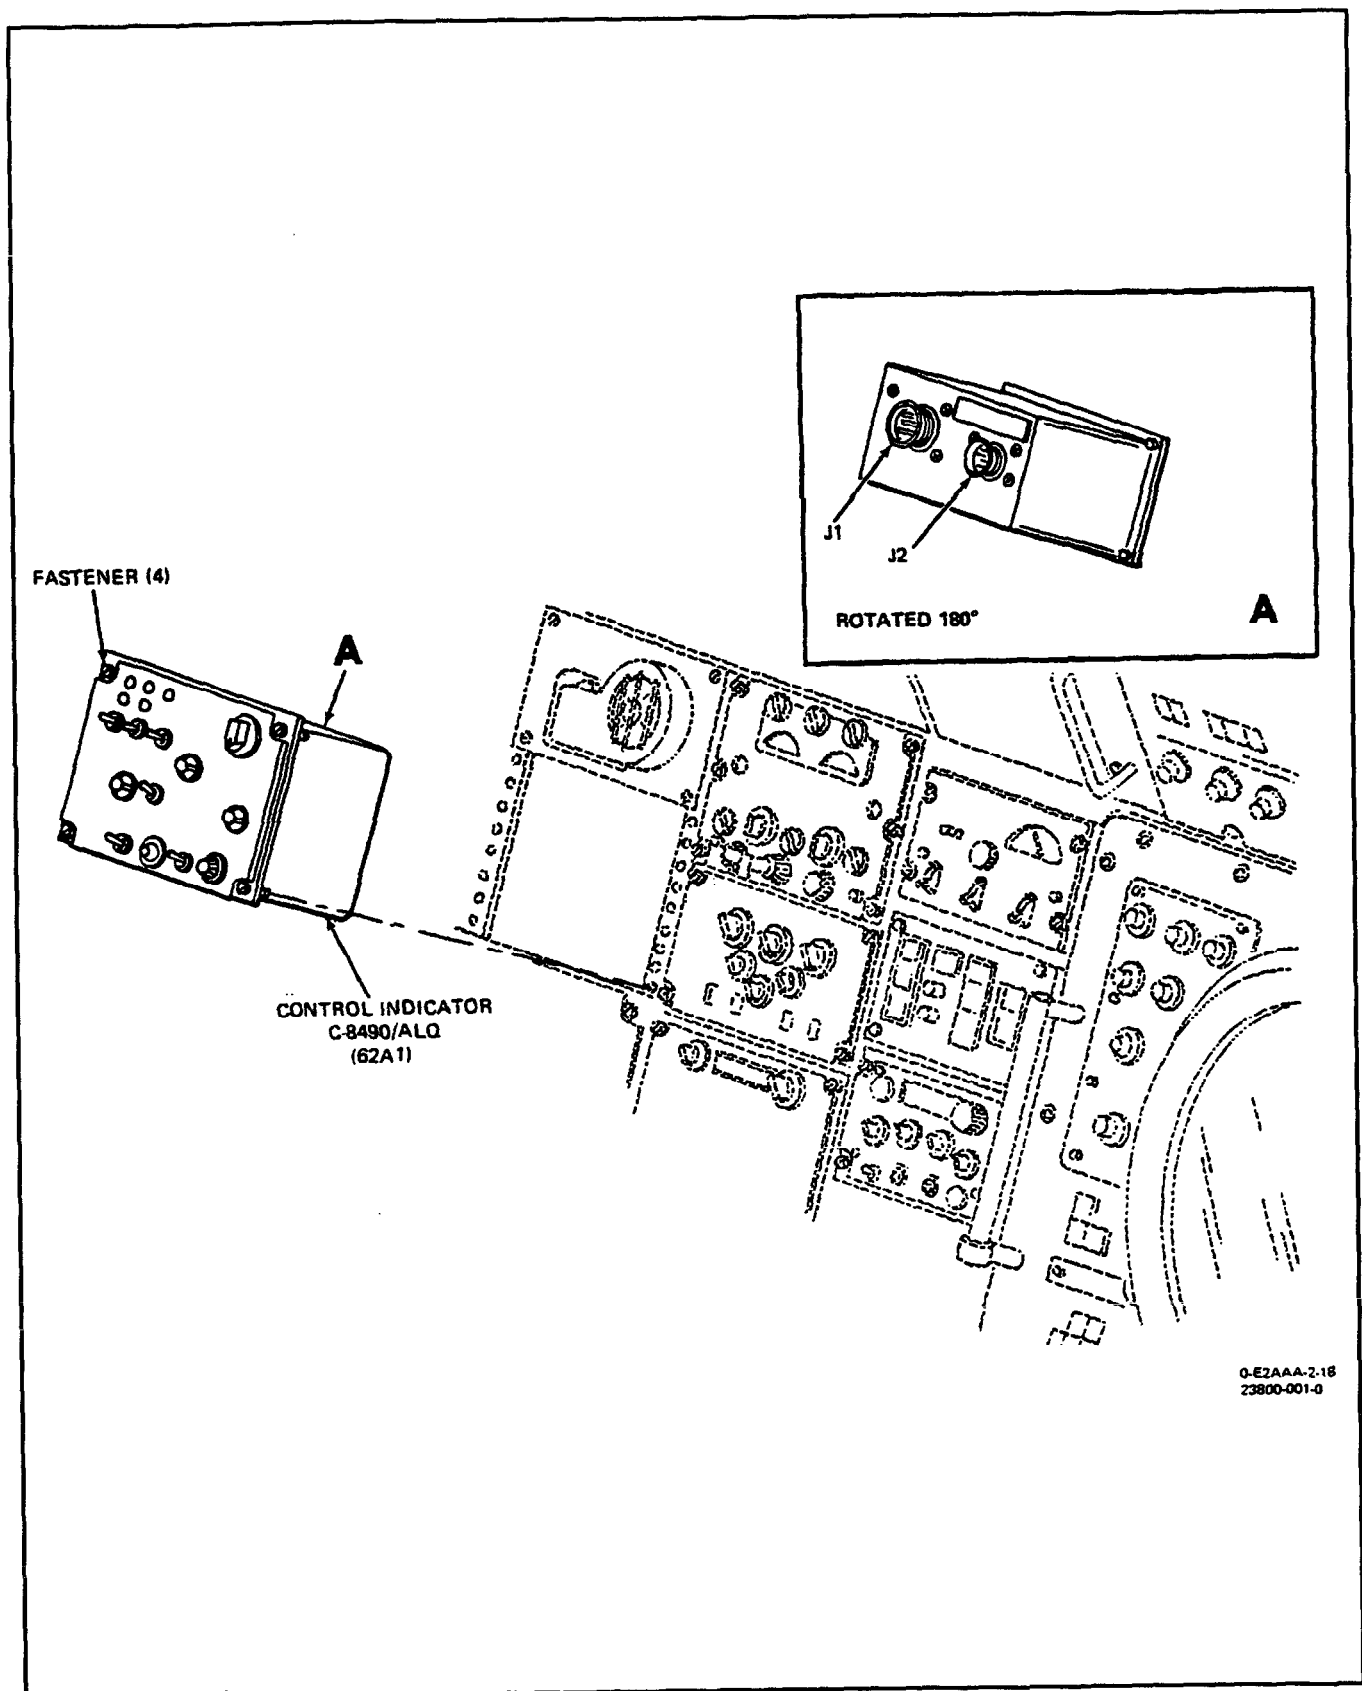

Figure 1. Removal and Installation of Control Indicator C-8490/ALQ
**3. REMOVAL.** (See figure 1.)
**4. INSTALLATION.** (See figure 1.)